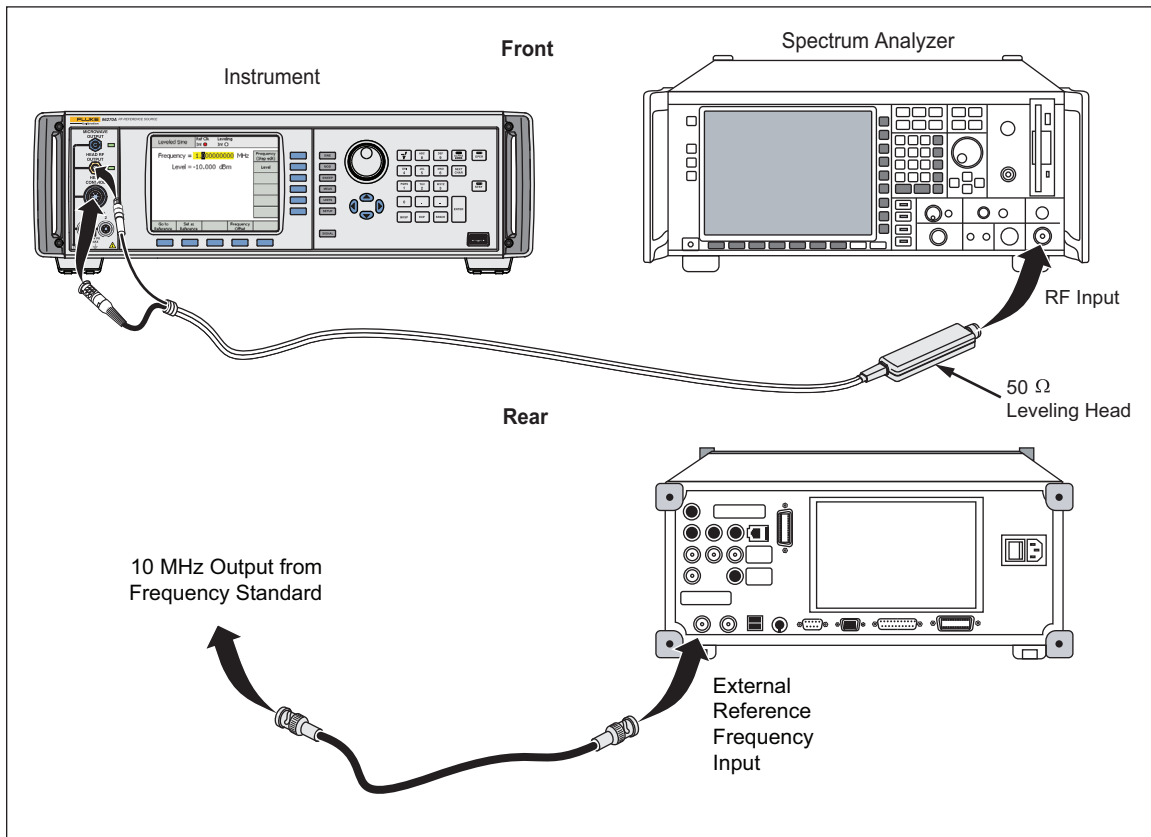

Figure 3-3. Equipment Connections - Frequency Accuracy Test Part B
10. Connect the UUT Microwave output to the input of the Spectrum Analyzer. See Figure 3-3 for equipment connections.